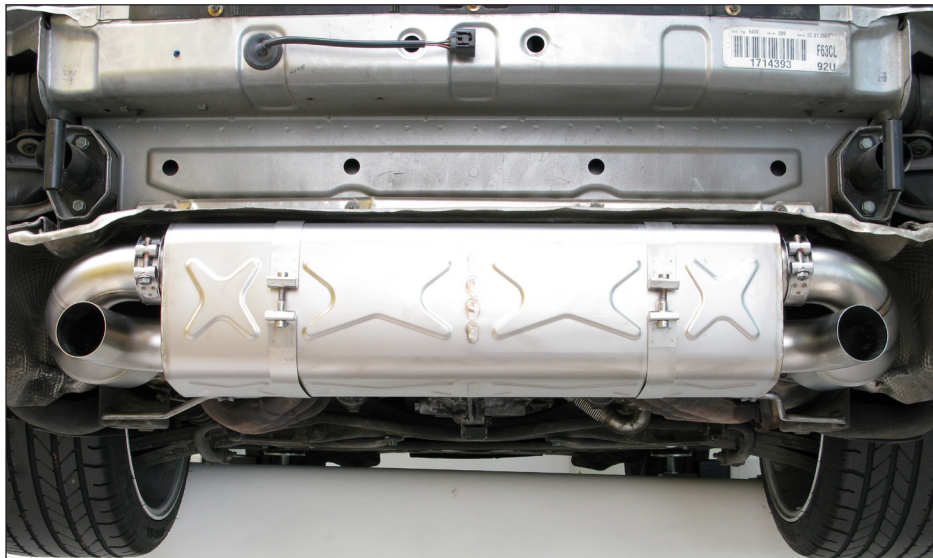

Figure 16
3. **For Slip-On and Evolution:** hang and center the muffler onto stock muffler bracket and simultaneously assemble the link pipes onto the turbine flanges (**Figure 16**). Hand tighten the Akrapovič muffler clamps.